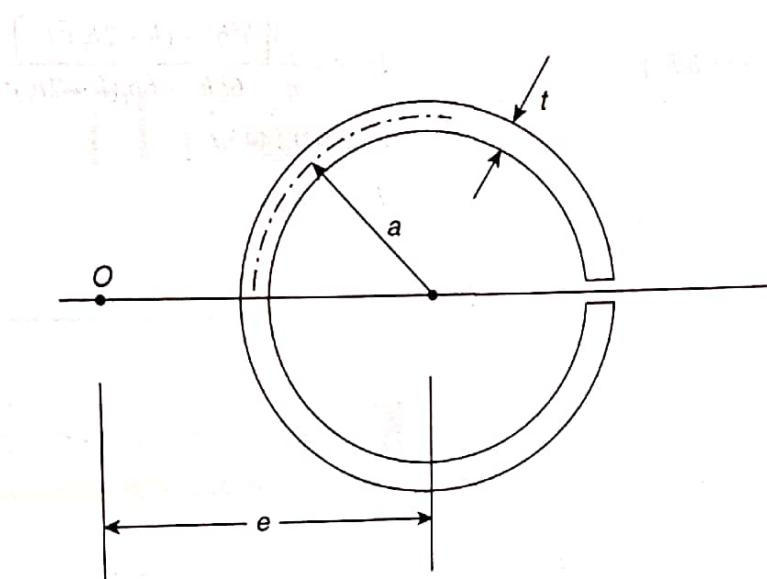

Figure 18.43 Practice Problem 7
7. Determine the location of shear centre of a thin-walled beam of uniform thickness having the cross-section shown in Fig. 18.43.